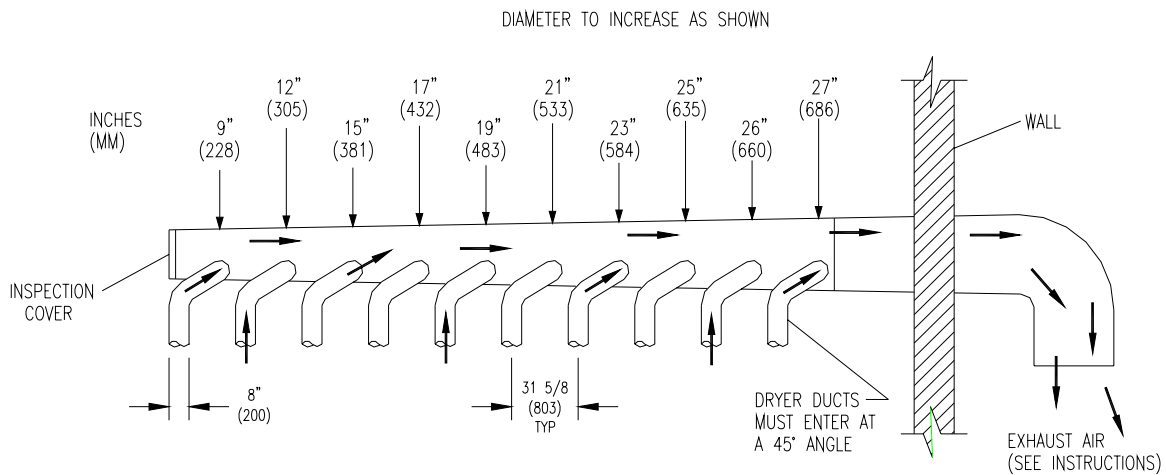

FIGURE 2- Dryer Exhausting Using A Main Discharge Duct.
7. **EXHAUST INSTALLATION.** (Refer to Figure 2 at the end of section 7.) Exhausting of the dryer(s) should be planned and constructed so that no air restrictions occur. Any restriction due to pipe size or type of installation can cause slow drying time, excessive heat, and lint in the room.
Installation of several dryers where a main discharge duct is necessary, will need the following considerations for installation (see Fig.2). Individual 8" ducts from the dryers into the main discharge duct should be at a 45 degree angle in the direction of discharge air flow.
**NOTE:** Never install the individual 8" ducts at a right angle into the main discharge duct. The individual ducts from the dryers can enter at the sides or bottom of the main discharge duct. Figure 2 indicates the various round main duct diameter to use with the individual dryer ducts. The main duct can be rectangular or round, provided adequate air flow is maintained. For each individual dryer, the total exhausting (main discharge duct plus duct outlet from the dryer) should not exceed the equivalent of 20 feet and two elbows. The diameter of the main discharge duct at the last dryer must be maintained to exhaust end.